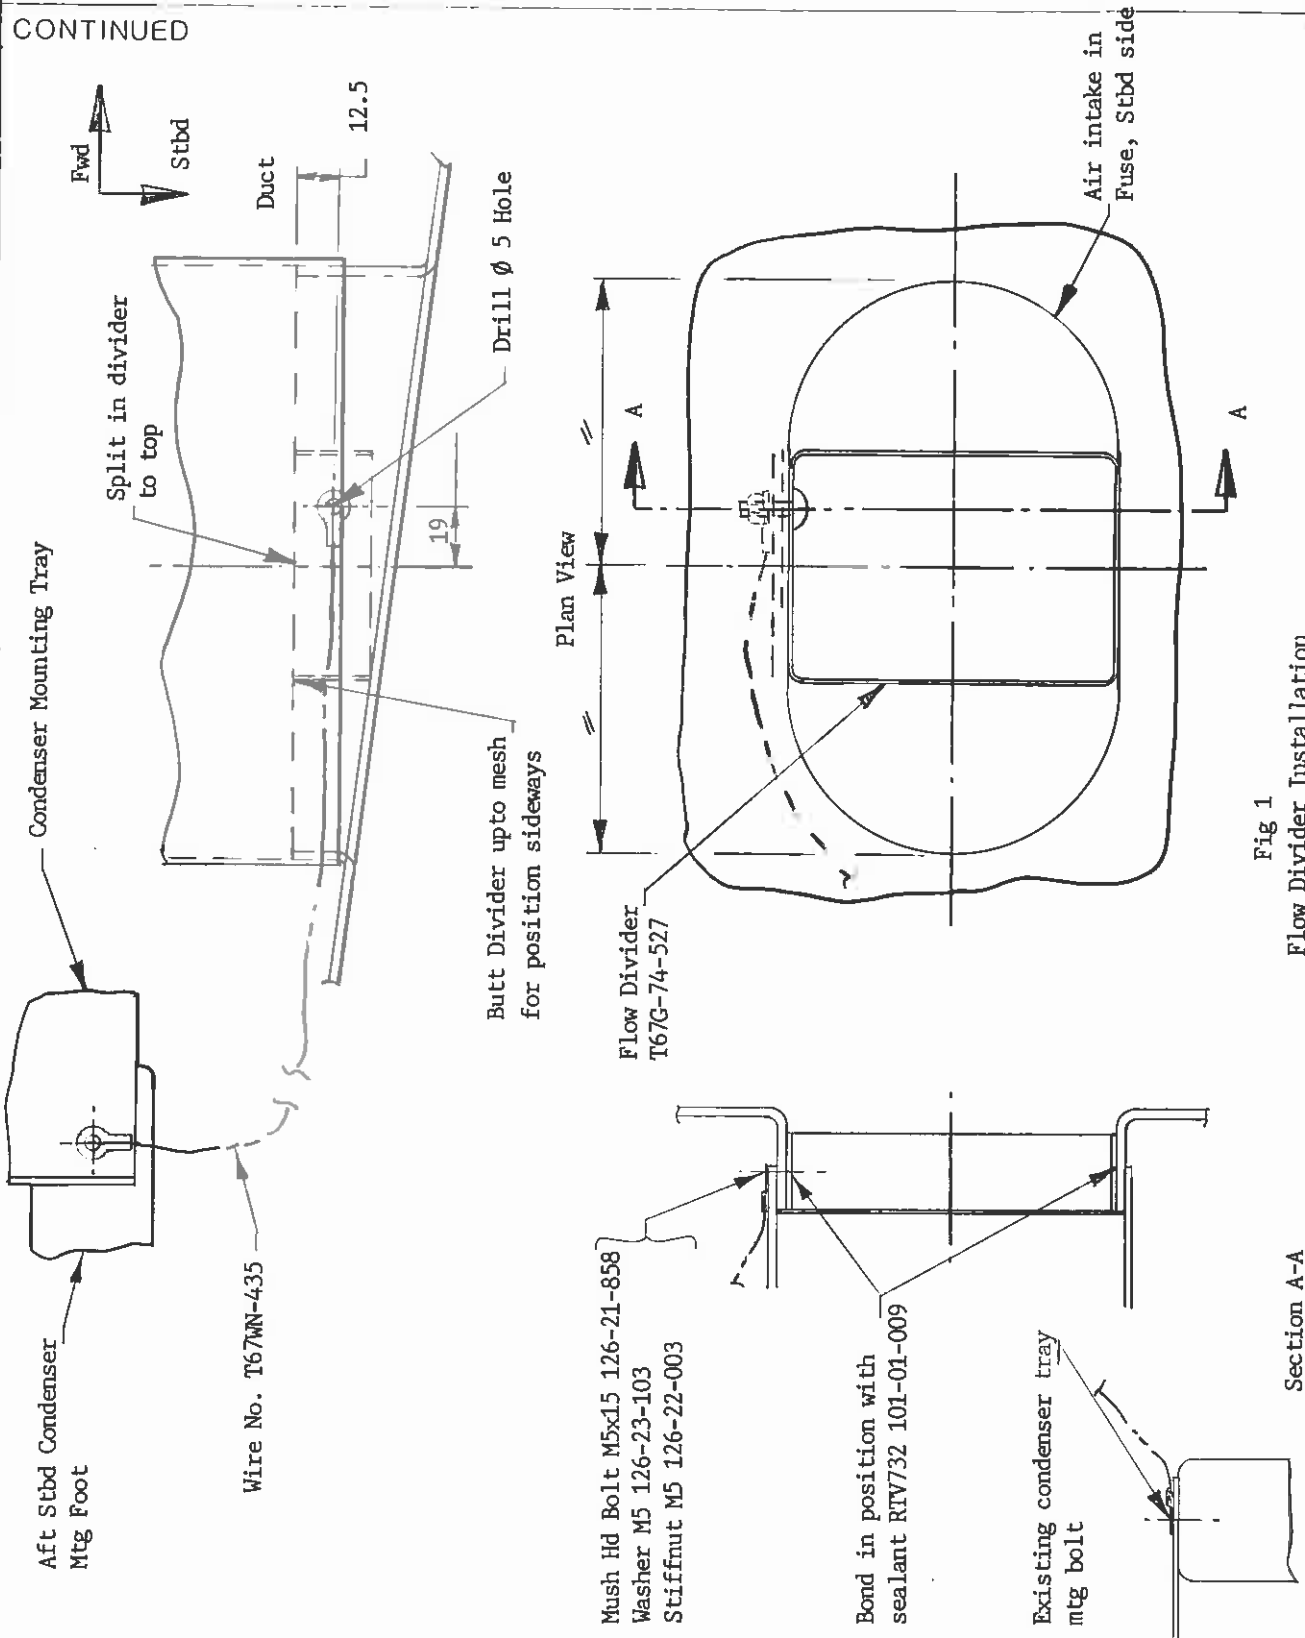

Fig 1
2. Install flow divider Pt No. T67G-74-527 into the stbd side air inlet as detailed by Fig. 1.